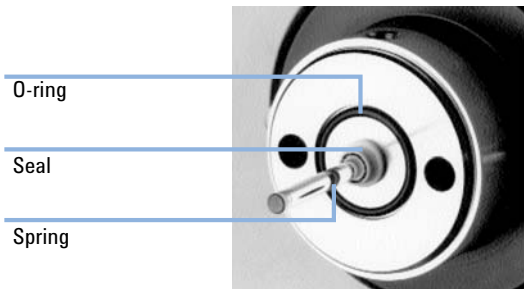

Figure 40 O-ring and high-pressure seal
- 3** Slide the washing section over the piston and install the new o-ring and seal (see Figure 40 on page 90).